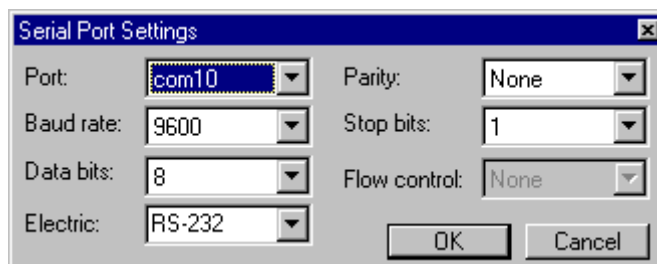

Figure 56 Serial Port Setting
- The property of the selected Device are set by clicking in the wanted **Properties** cell belonging to the "Host Out" device, and the box shown in Figure 56 appears. Select the wanted settings and click **OK**. Click in the wanted **Properties** cell belonging to the "Network Out" device, and the **Network Settings** dialogue box below appears. Select the wanted Port Number and click **OK**. The default port number is recommended used unless it is in conflict with other equipment connected to the network.